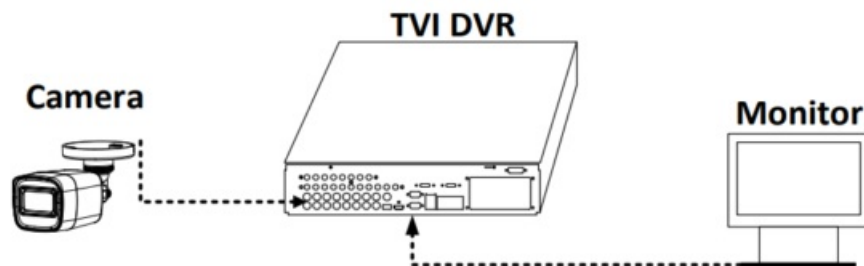

Figure 3-1 Connection
1. Connect the camera with the TVI DVR, and the monitor, shown as figure 3-1.